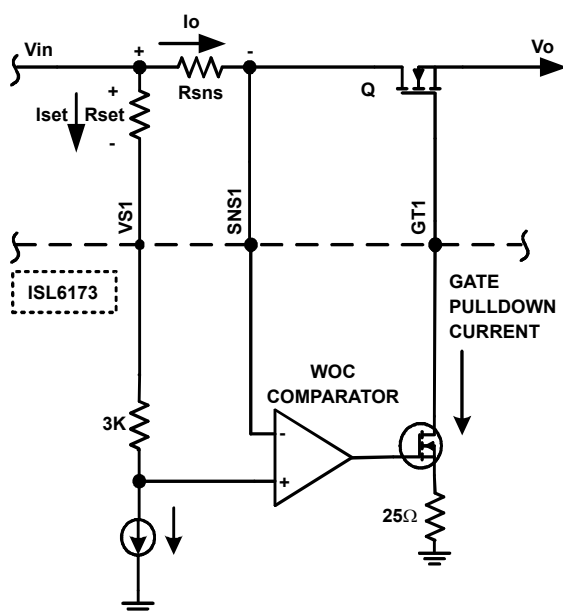

FIGURE 14. WOC OPERATION
2. Way Overcurrent (WOC) Mode - This mode is designed to handle very fast, very low impedance shorts on the load side, which can result in very high di/dt. Typically, the current limit set for this mode is 300% of the current regulation limit. This mode uses a very fast comparator, which directly looks at the voltage drop across R_{SNS} and pulls the gate very quickly to GND (as shown in Figure 14) and immediately releases it. If the WOC is still present, the IC enters current regulation mode and the rest of the current regulation behavior follows as described earlier in undercurrent regulation mode.